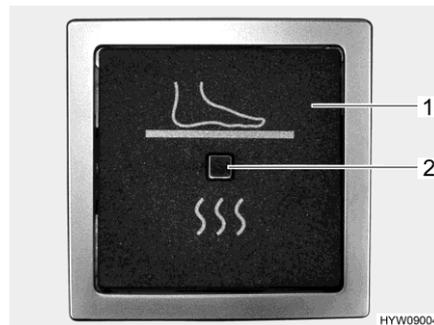

Fig. 120 Rocker switch (electrical floor warming unit)
- ▷ The electrical floor warming unit is switched on and off via a rocker switch (Fig. 120,1). When the floor warming unit is working, the indicator lamp (Fig. 120,2) will be lit red.